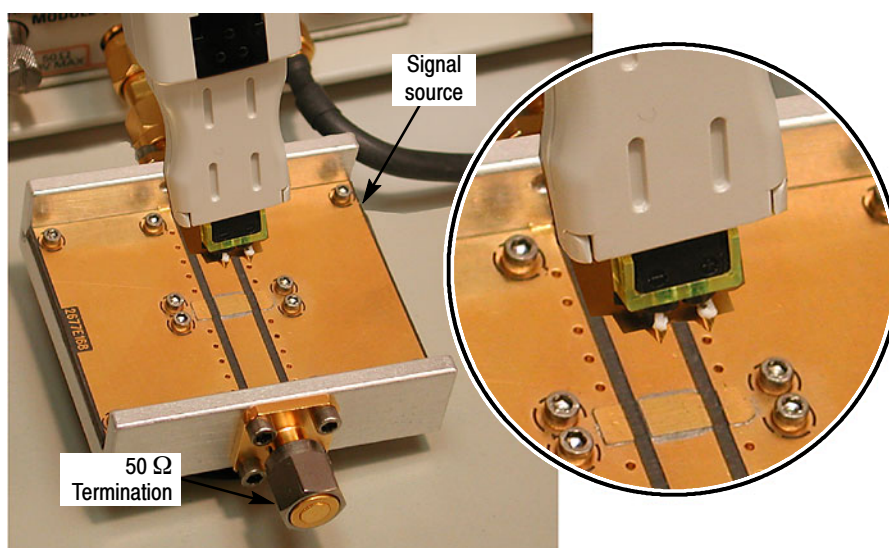

Figure 15: Handheld adapter and calibration fixture
14. Connect the probe input to the probe calibration fixture as shown in Figure 15 on page 36. Check that the TDR function is still active.